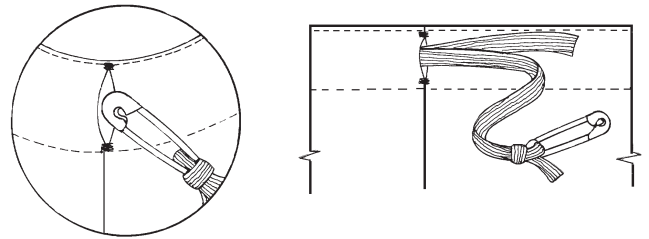

Fig. 12-14
5. Fasten a safety pin to one end of the drawstring. On the outside, insert the pinned drawstring through the casing opening and pull the drawstring through the casing and then back out of the opening. (Fig. 12-14) Be sure to hold the loose end of the drawstring so it will not be pulled through. Tie a knot in each end of the drawstring. Distribute the fullness evenly.